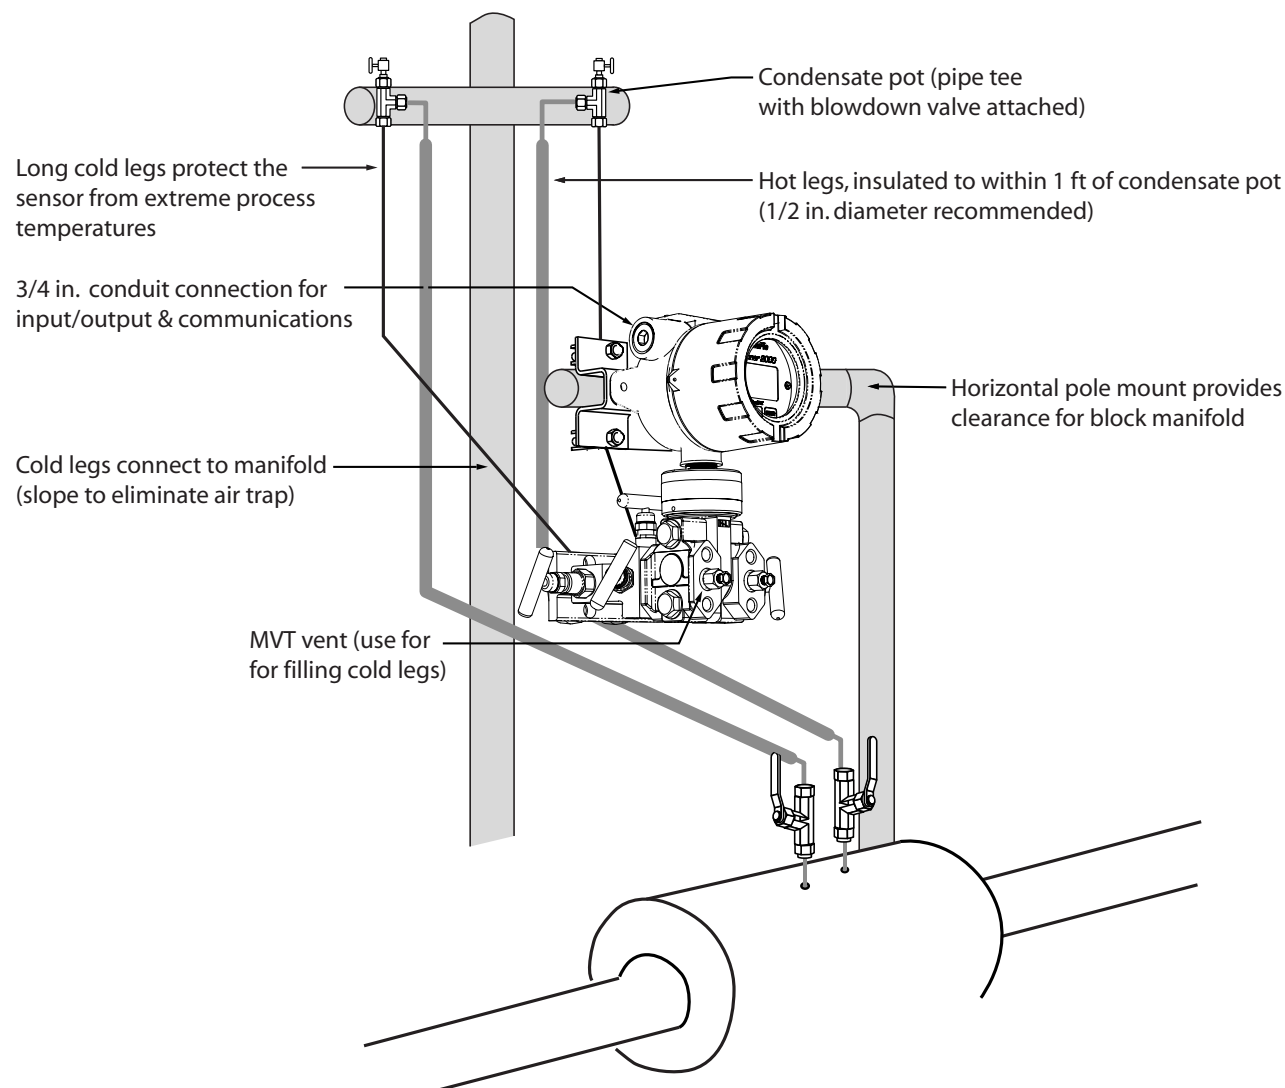

Figure 2.9—Remote-mount steam run installation (shown here with a cone meter). The remote-mount method can be used with an orifice meter as well.
**CAUTION** When measuring steam, process connections must be designed to eliminate air pockets. This is achieved by making sure all tubing in the cold legs slopes upward. A side-port MVT and block manifold (shown in Figure 2.9, page 42) is recommended to help prevent air bubbles from being trapped in the sensor.